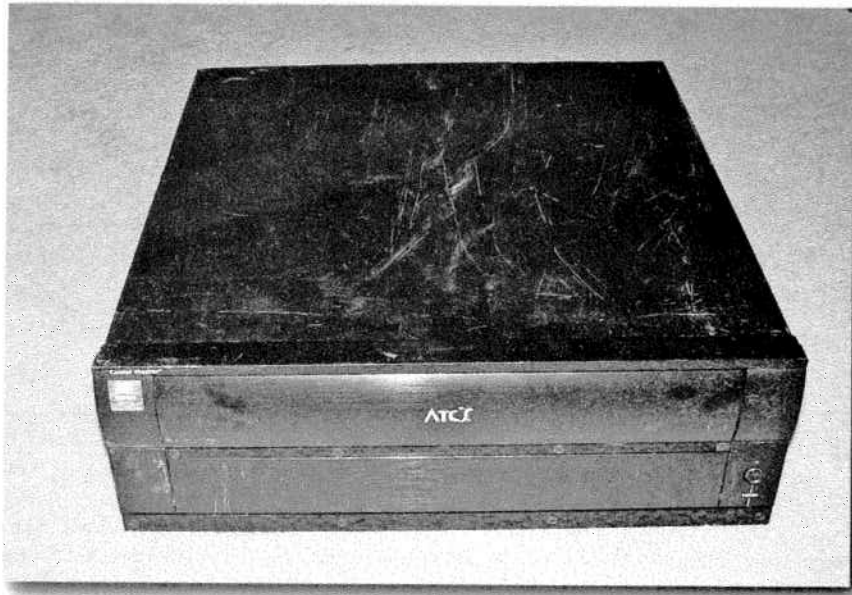

FIGURE 13-1: Cooler Master ATCS case.
- Flat pizza-box computer case that can fit conveniently in the trunk, such as the Cooler Master ATCS (~\$120, see Figure 13-1). The flat cases are easy to place in the trunk, easy to mount and secure, and are easily expandable with the peripherals you will likely want to use in a gaming PC.
Now that you have your display installed, you can place the computer where you want to keep it. If you're installing a slimline case, a good place is under the passenger seat. For a larger form-factor PC, such as the Cooler Master ATCS pizza-box-style case shown in Figure 13-1 and specified for this project, the trunk will do just fine.